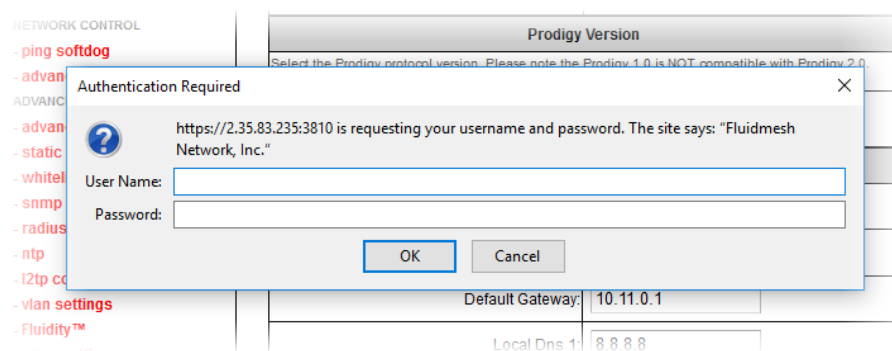

Figure 56. Web browser (Authentication Required dialog)
- The web browser will show the **Authentication Required** dialog (Figure 56 (page 106)). If needed, use the dialog to log in again.